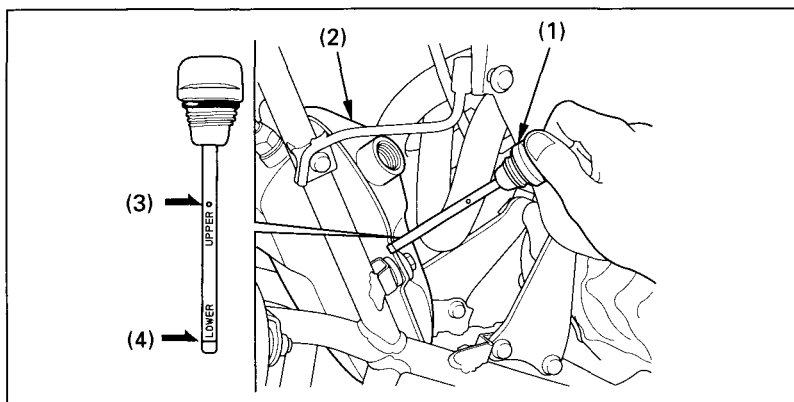

Fig. 2-16 (1) Oil filler cap/dipstick (3) Upper level mark
The oil filler cap/dipstick (Fig.2-16), on the oil tank (2), is used to measure the oil level. The oil should be checked each day before operating the FOURTRAX and maintained between the upper level mark (3) and the lower level mark (4) .